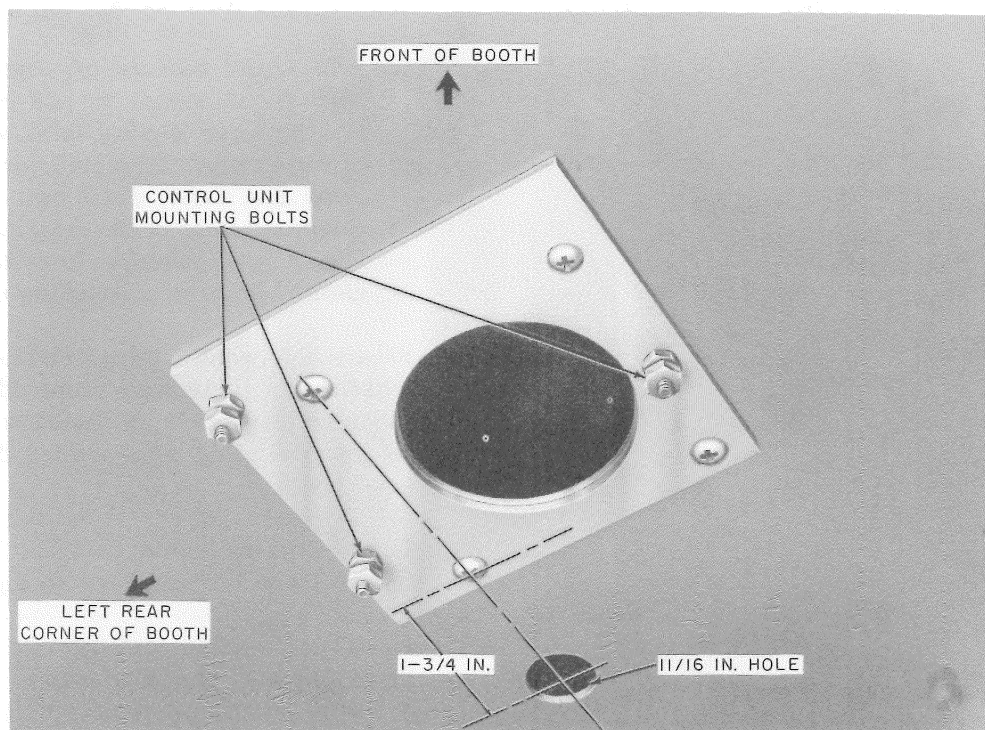

Fig. 11—Installation of Adapter Plate to Ceiling of KS-16797 Booth
- (f) Secure light control adapter plate on ceiling where cord plate was removed (Fig. 11). This adapter plate must be placed with the two control unit mounting bolts toward the left rear corner of booth.
- (g) Locate and drill one 11/16-inch diameter hole in the ceiling as shown in Fig. 11.